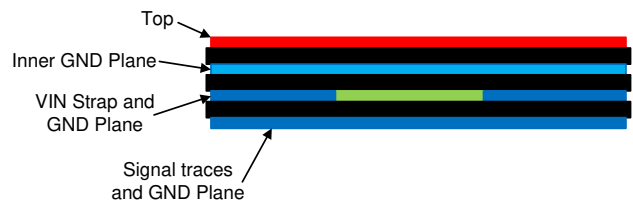

Figure 10-3. Example Layout for VQFN Package
The PCB layout of any DC/DC converter is critical to the optimal performance of the design. Bad PCB layout can disrupt the operation of an otherwise good schematic design. Even if the converter regulates correctly, bad PCB layout can mean the difference between a robust design and one that cannot be mass produced. Furthermore, the EMI performance of the regulator is dependent on the PCB layout, to a great extent. In a buck converter, the most critical PCB feature is the loop formed by the input capacitor or input capacitors, and power ground, as shown in Figure 10-1. This loop carries large transient currents that can cause large transient voltages when reacting with the trace inductance. These unwanted transient voltages will disrupt the proper operation of the converter. Because of this, the traces in this loop must be wide and short, and the loop area as small as possible to reduce the parasitic inductance. Figure 10-2 and Figure 10-3 show recommended layouts for the critical components of the LMR33620.
1. **Place the input capacitor or capacitors as close as possible to the VIN and GND terminals.** VIN and GND pins are adjacent, simplifying the input capacitor placement. With the VQFN package there are two VIN/PGND pairs on either side of the package. This provides for a symmetrical layout and helps minimize switching noise and EMI generation. A wide VIN plane must be used on a lower layer to connect both of the VIN pairs together to the input supply; see Figure 10-3.